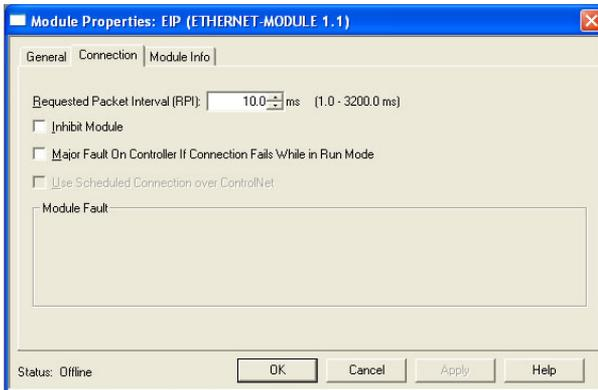

Figure 85: Interface Card Module Properties Connection Tab
- 5) You should now see the new module (named “ETHERNET-MODULE Fuji_Inverter”) in the 1756-ENBT/A branch under the I/O Configuration in the controller organizer view. Right click on this new module, choose “Properties”, and select the Connection tab. Refer to Figure 85.